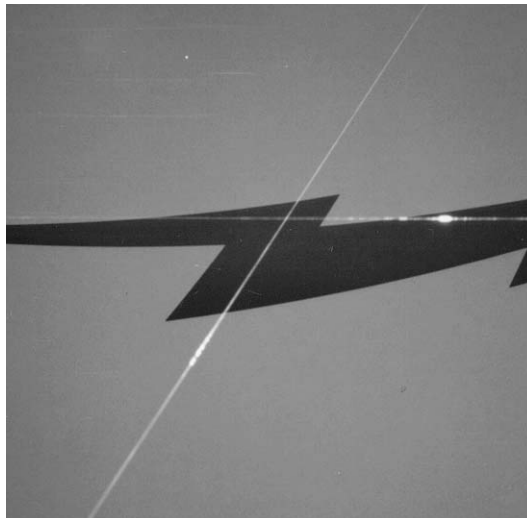

Figure 3-37: Reflector Alignment
- Step 3* Verify its intersection to the first string as shown in Figure 3-37. If the strings touch, then the reflector has been correctly aligned. If they do not touch, then check all previous steps to ensure proper assembly before continuing.